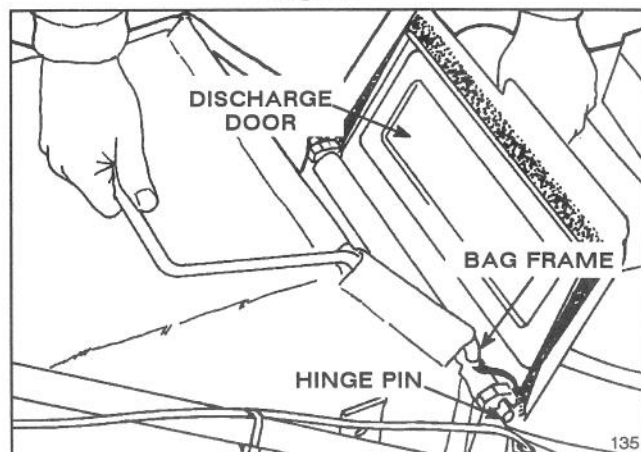
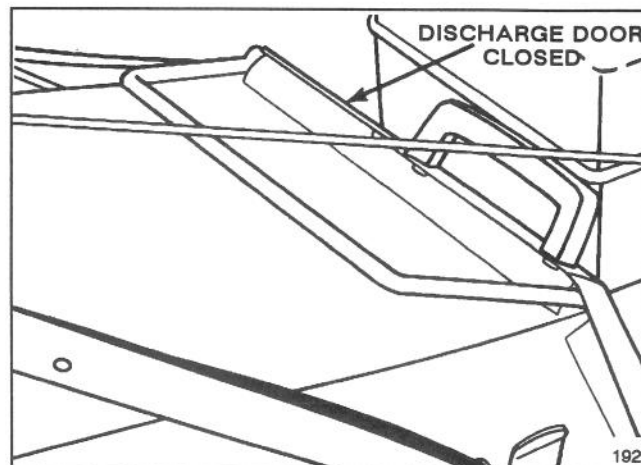

Figure 2
Figure 3
4. To install grass bag, raise discharge door and hook bag frame onto hinge pins (Fig. 2). Allow bag to rest on mower housing over discharge opening. Close door and make sure it seals around top of bag opening (Fig. 3).